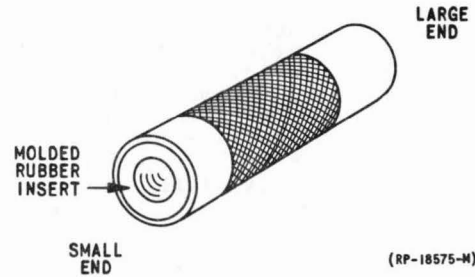

FIG. 4 SMALL WIRE CONNECTOR (WIRE NUT) WRENCH R-3253 (PAR. 4.48)
4.48 Use the R-3253 small wire connector (wire nut) wrench when installing a number of the wire connectors of either size. This hand tool will relieve finger fatigue frequently experienced when many connections are made in a short period of time. See Figure 4.